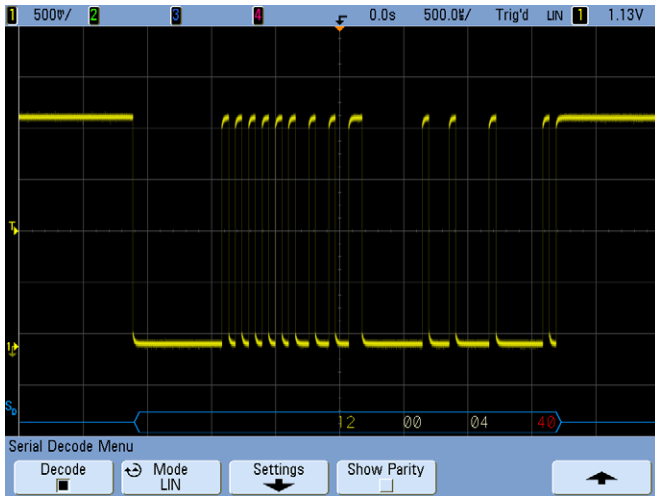

Figure 5 While triggering on LIN frame ID:12h, hardware -accelerated decoding shows infrequent checksum error
- 11 To turn on LIN protocol decoding, first press the **[Acquire]** key on the oscilloscope’s front panel, press the **Serial Decode** softkey, change **Mode** from CAN to LIN, and then press the **Decode** softkey. Your oscilloscope’s display should now look similar to Figure 5.